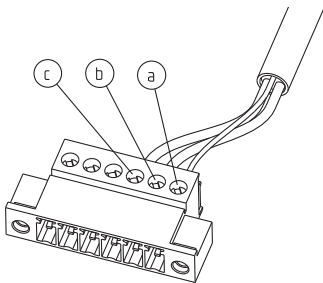

Fig. 3: Terminal Connector
- 3 Connect the DC power supply cables into the supplied terminal block (2) as shown in Fig. 3.